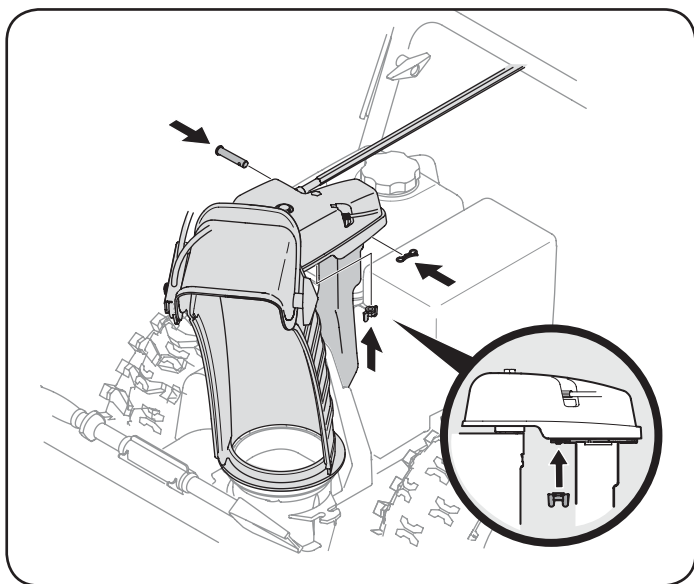

Figure 11
- Finish securing chute rotation assembly to chute support bracket with wing nut, clevis pin and cotter pin removed earlier. See Figure 11.